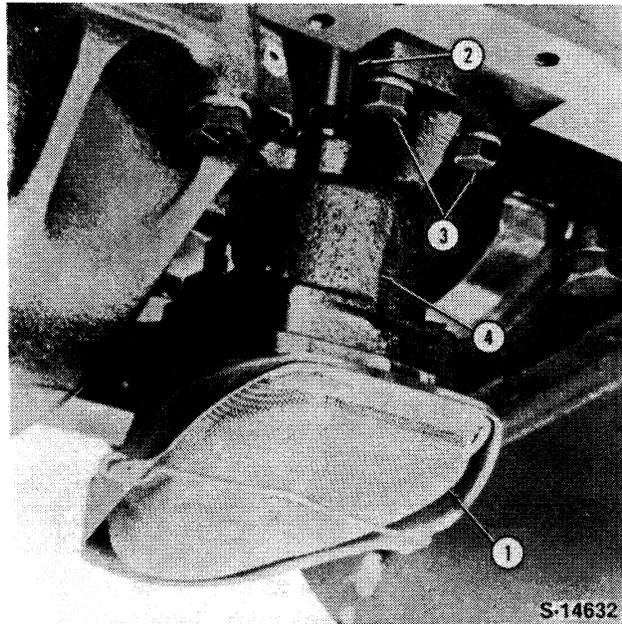

Figure 26
2. Remove the oil pump with the filter screen, Figure 26. Withdraw the intermediate shaft.